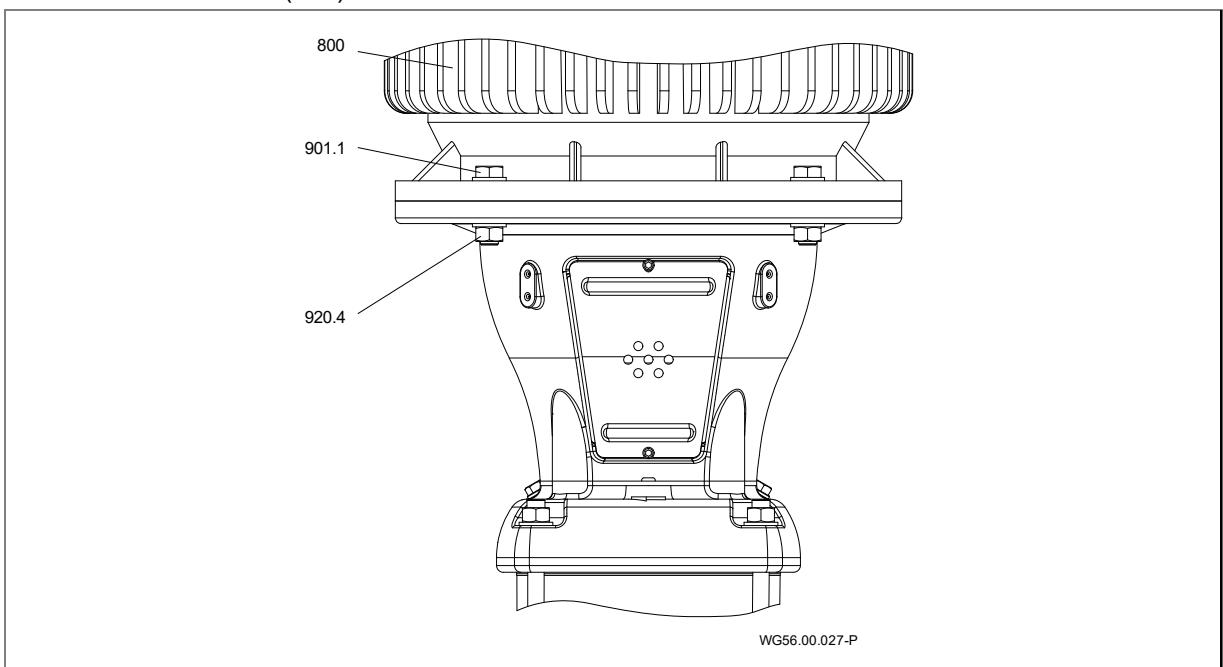

Fig. 13
- ➔ Observe figure 13.
- 1. Position the motor (800) on the drive lantern (161).